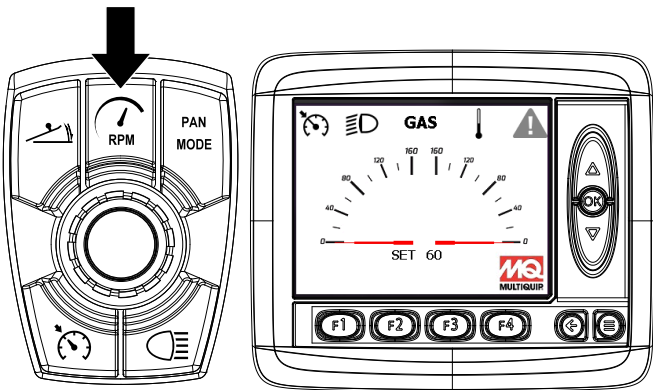

Figure 36. Digital Display (Rotor Speed)
- Press the **RPM button** to view the **maximum rotor speed adjustment screen** on the digital display (Figure 36).